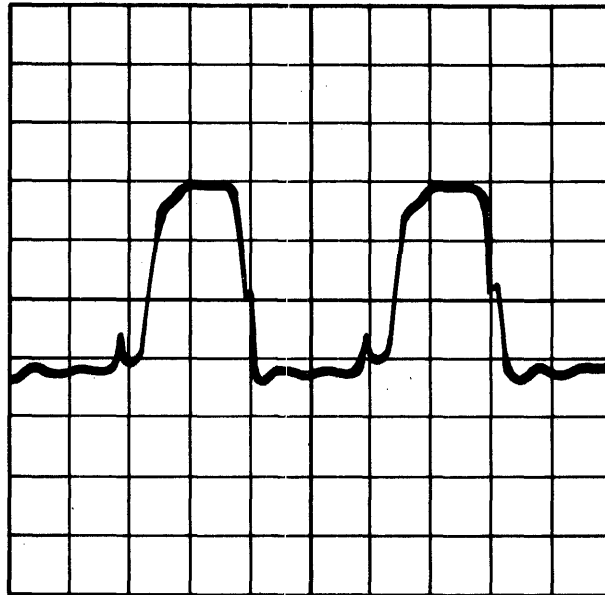

Figure 5-38. Write Current Waveform – Track 000
- K. Using an offset screwdriver, adjust Write Current potentiometer R71 on the Data Electronics Board for a peak-to-peak waveform of 34 to 36 milliamperes while writing all zeroes to disc as shown in Figure 5-38.